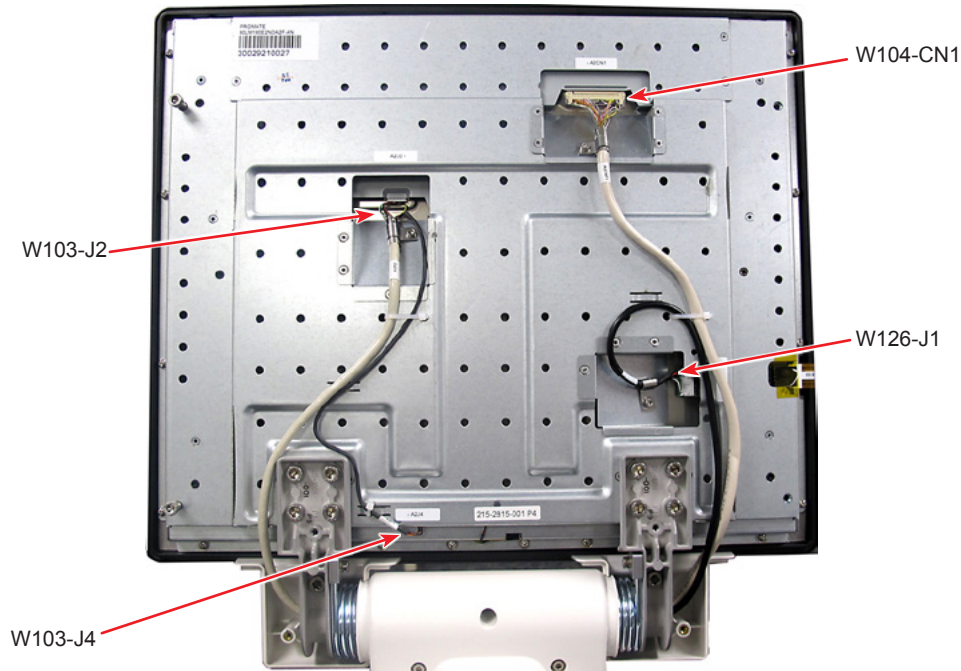

Figure 3-87 Display with Covers Removed
- 68.3 Carefully disconnect CNP1 by squeezing latch on each side to release (see Figure 3-87).